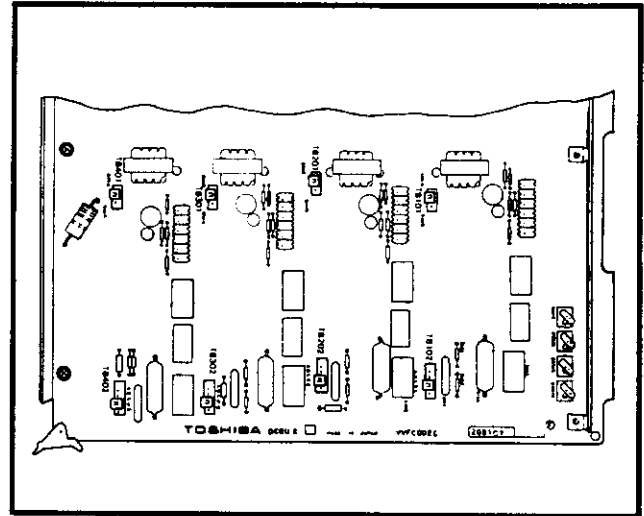

FIGURE 24—DCOU PCB STRAPPING LOCATION
- 1) Each DCOU circuit is individually strapped for either Ground-Start or Loop-Start operation (Figure 24). The strapping location for each circuit is shown below.